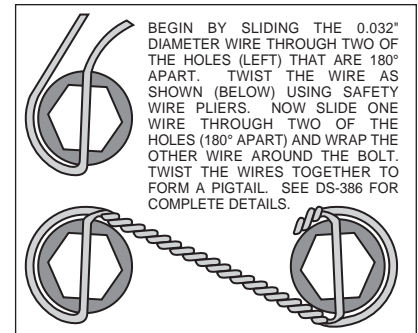

Figure 3. Safety Wire Diagram
- Orient the rotor (6) and the hat (7) as shown in Figure 1. Attach rotor to hat using bolts (9) and washers (8). Using an alternating sequence, apply red *Loctite*[®] 271 to the threads and torque bolts to 155 **in-lb**. For an added measure of security, the bolts may be safety wired using standard 0.032 inch diameter stainless steel safety wire as shown in Figure 3. Please refer to Wilwood's data sheet DS-386 (available at www.wilwood.com/Pdf/DataSheets/ds386.pdf) for complete safety wire installation instructions.